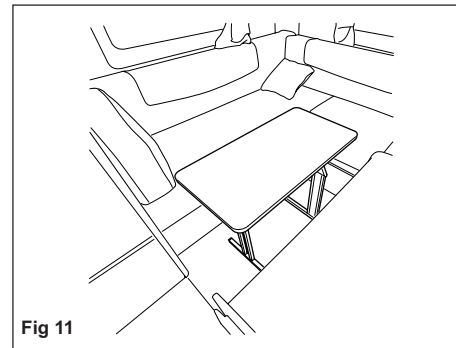

Fig 11
- Open out the legs ensuring they lock into position (Fig 11).